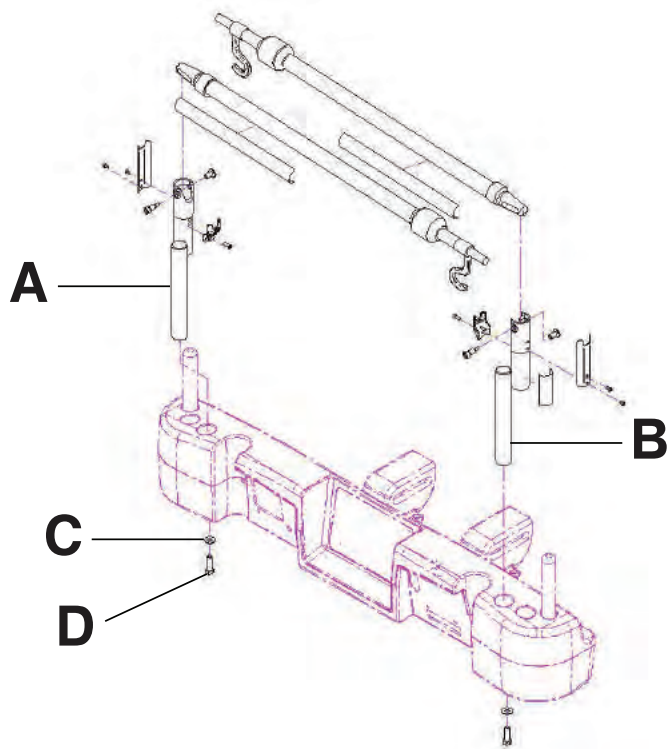

Figure 121: Dual two stage IV pole
1. Using a 3/8 in. drive ratchet and a 1/2 in. socket, install one washer (C) and one bolt (D) to secure the IV pole into the socket at the head end of the product (A) (Figure 121 on page 105).
2. Using a 3/8 in. drive ratchet and a 1/2 in. socket, install one washer (C) and one bolt (D) to secure the IV pole support into the socket at the head end of the product (B) (Figure 121 on page 105).